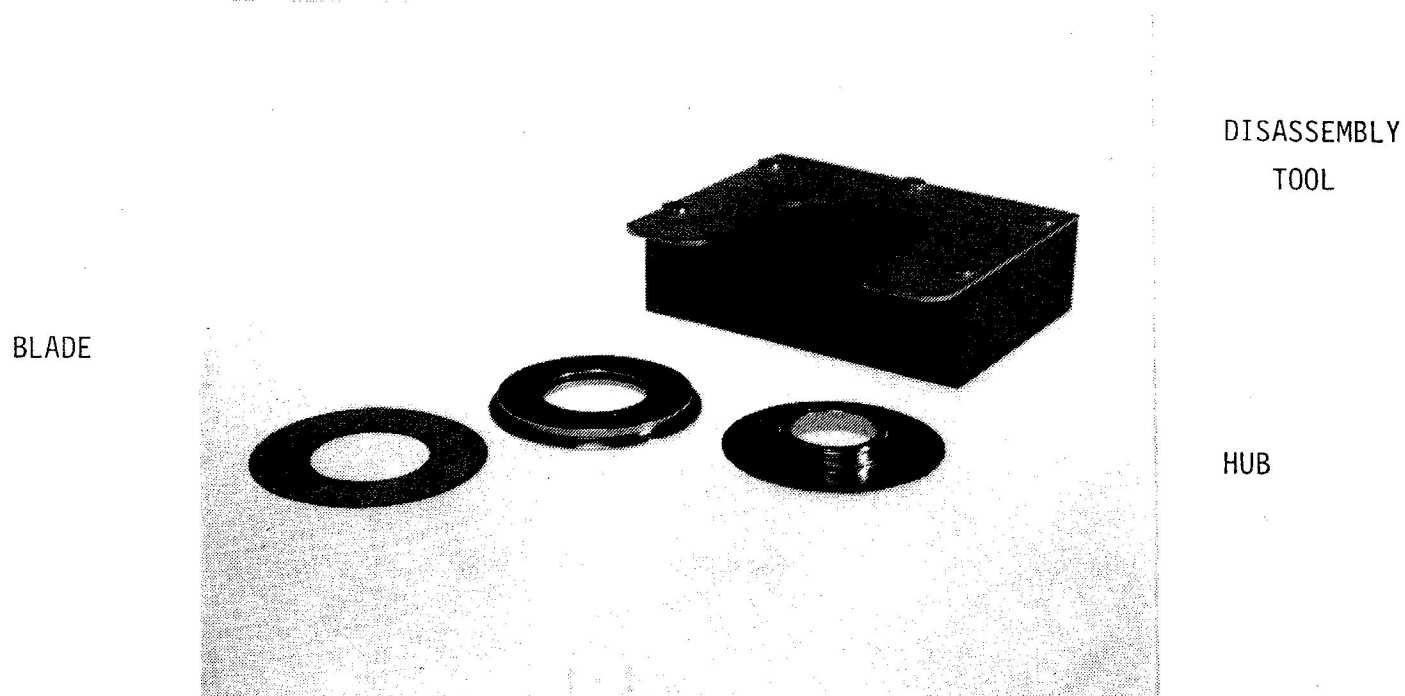

Figure 3-1. One-inch ID Blade with Adapter and Disassembly Tool
Figure 3-1 shows a disassembled MAI blade holder, a 1-inch ID unmounted blade, and the disassembly tool for the adapter. Blade exposure is one-half the difference between the blade OD (outside diameter) and the OD of the adapter. You determine blade exposure by choosing an adapter to give the exposure you want. Table 3-1 lists MAI's adapters and the OD of each. The adapters are identified by the number of punch marks on the parts.
- Place the hub on a clean surface with the flat side down. (The same way as it is shown in figure 3-1.)
- d. Place the retainer over the hub. The large diameter should be down. (The same way it is in figure 3-1.)